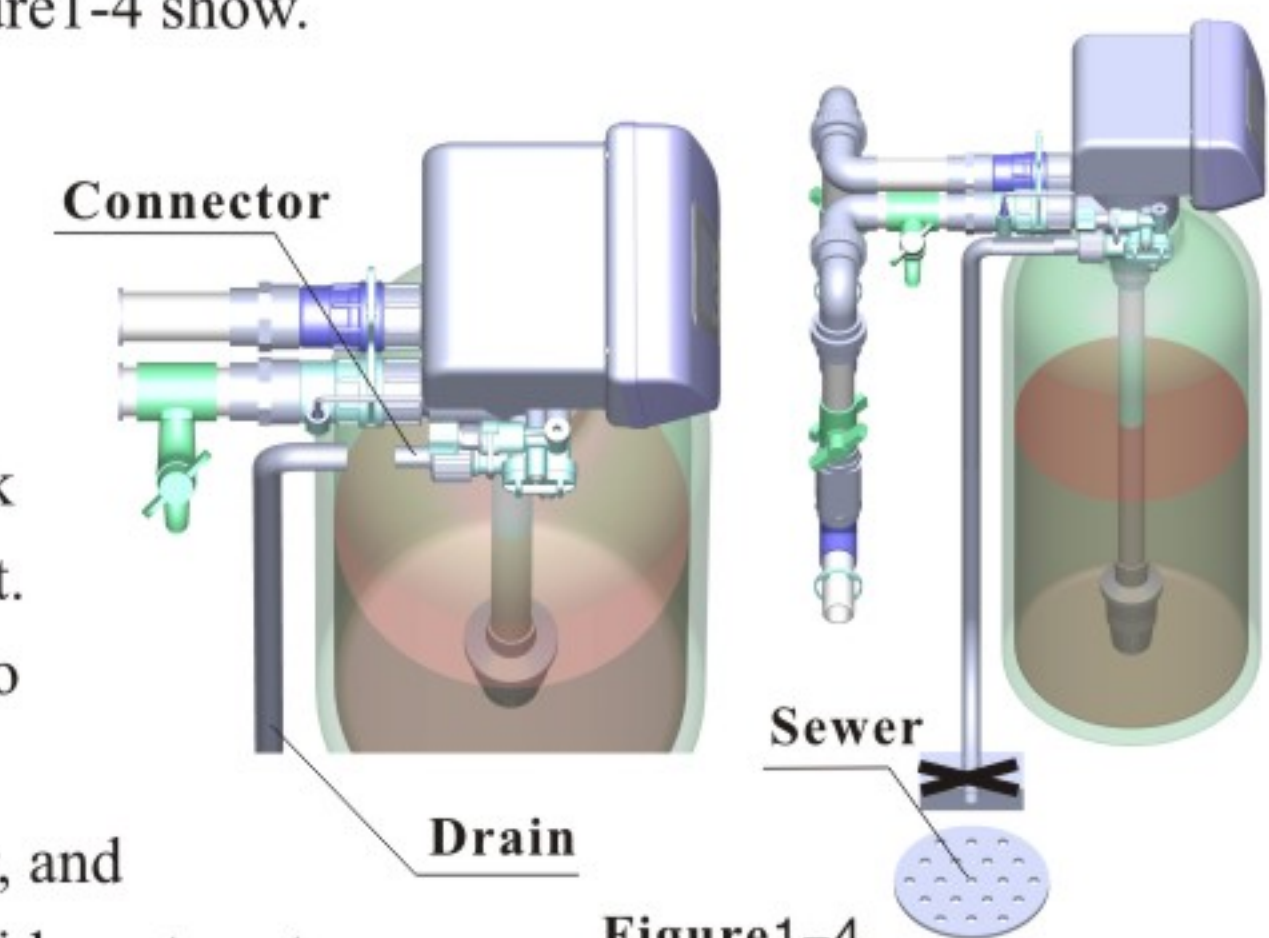

Figure 1-4
- If the valve belongs to time clock type, there are no step ② and ③.
⑤ Install drain pipeline
a. As the Figure 1-4 shows, slide the drain hose connector into drain outlet.
b. Locate the drain hose well as the Figure 1-4 show.
be absorbing to the water treatment equipment, such as showed in the Figure 1-4.